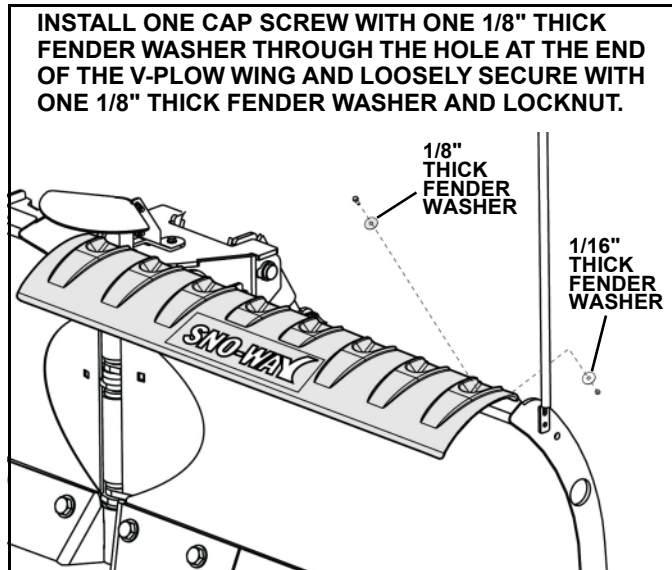

Figure 6
12. Position the DS Snow Deflector section (#1) to the outside top edge of the DS V-Blade wing. Clamp the deflector flat against the top of blade using a padded bus bar or spring clamp. Install (1) 1/4"-20 x 1-1/4" Hex Head Cap Screw (#4) and (1) 1/4" ID x 1-1/2" OD x 1/8" Thick Fender Washer (#5) through the hole in the deflector closest to the end of the blade. Loosely install (1) 1/4" ID x 1-1/2" OD x 1/16" Thick Fender Washer (#6) and (1) 1/4" x 20 Locknut (#7) on the cap screw. (See Figure 6.)